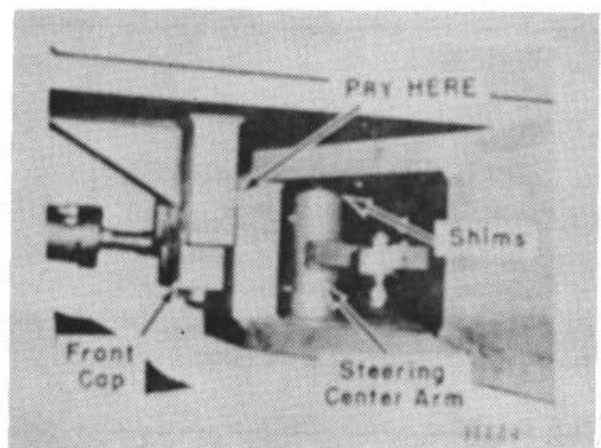

Figure 11.
2. Pry axle to the rear (Fig. 11) and measure between